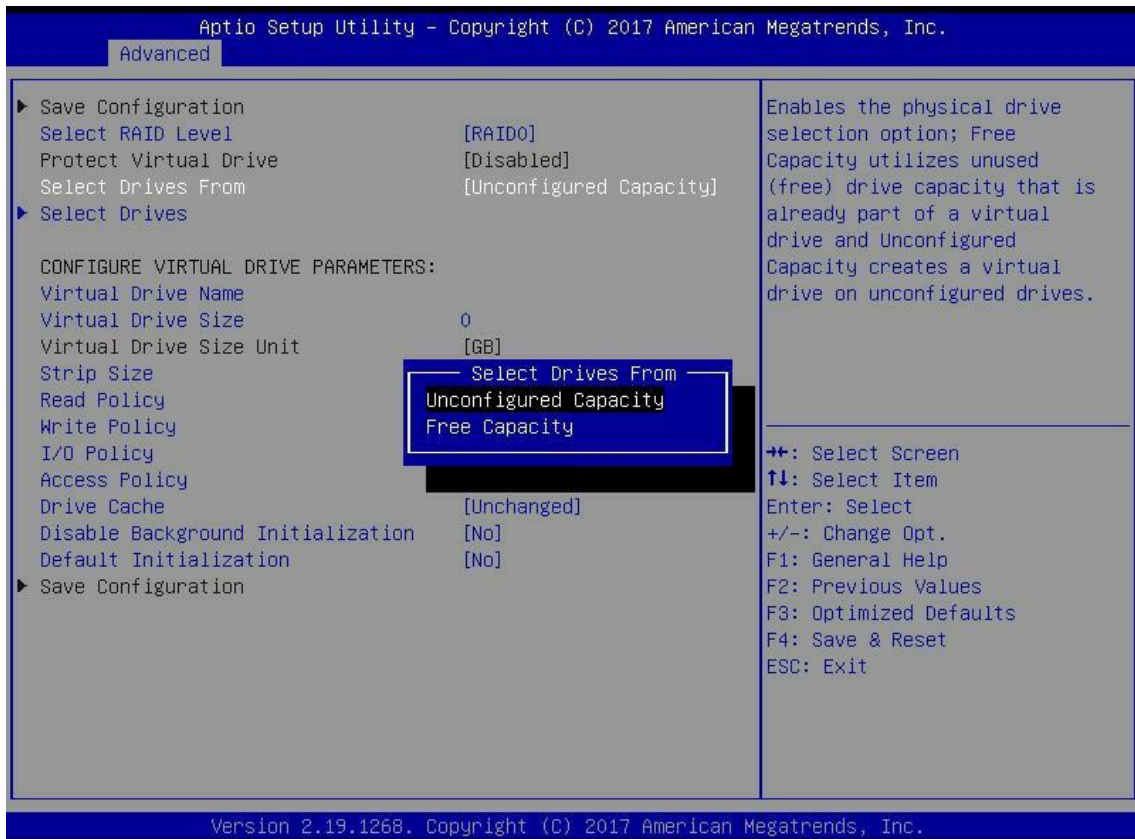

Figure 6-10
d) Enter the interface shown in Figure 6-10, select select drives from, set the source of RAID disk capacity, and press enter.